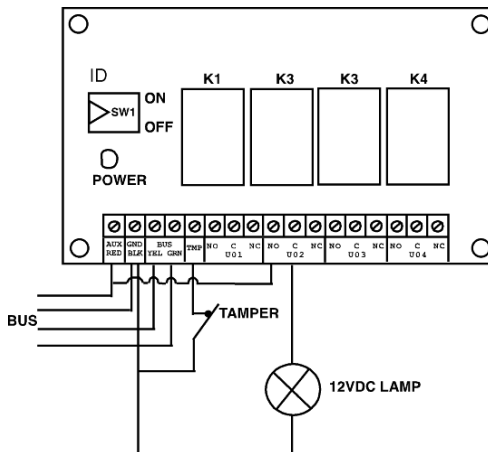

Figure 3-4: Utility Output Module UO4 (Showing an Example of UO4 Wiring)
- a. UO4 – Relays (see Figure 2-8 and Figure 3-4)
- Connect the devices to the outputs terminals (12VDC @ 1A max Dry Contact Relays). See Figure 2-8 and Figure 3-4